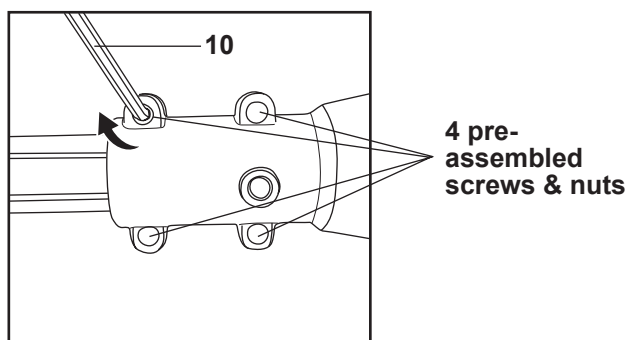

Fig. 4
- Tighten 4 pre-assembled screws on the motor unit by using the provided hex key (10). (Fig. 4)